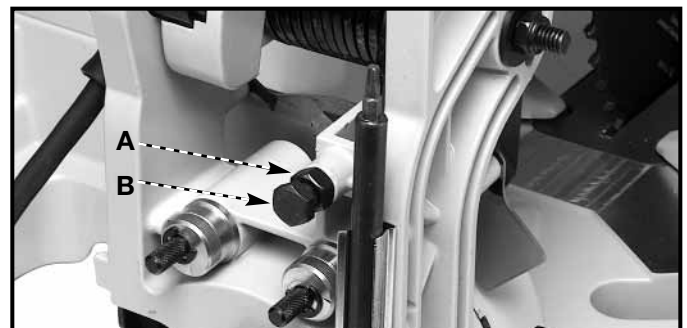

Fig. 34
The tension of the cuttinghead return spring has been adjusted at the factory so that the cuttinghead returns to the “up” position after a cut has been made. To re-adjust the spring tension, loosen the nut (A) Fig. 34 and turn the adjusting screw (B) Fig. 34 clockwise to increase, or counterclockwise to decrease the spring tension. Tighten nut (A) securely.